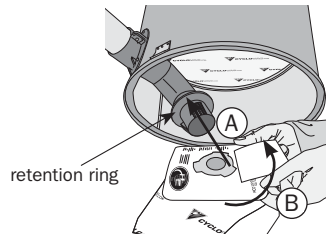

figure 13
4. Ensure adequate sealing by inserting bag as far as retention ring (**figure 13 - A**). Rotate bag 20° (**figure 13 - B**) to ensure tabs on bag adaptor are no longer aligned with the slots in the bag collar.